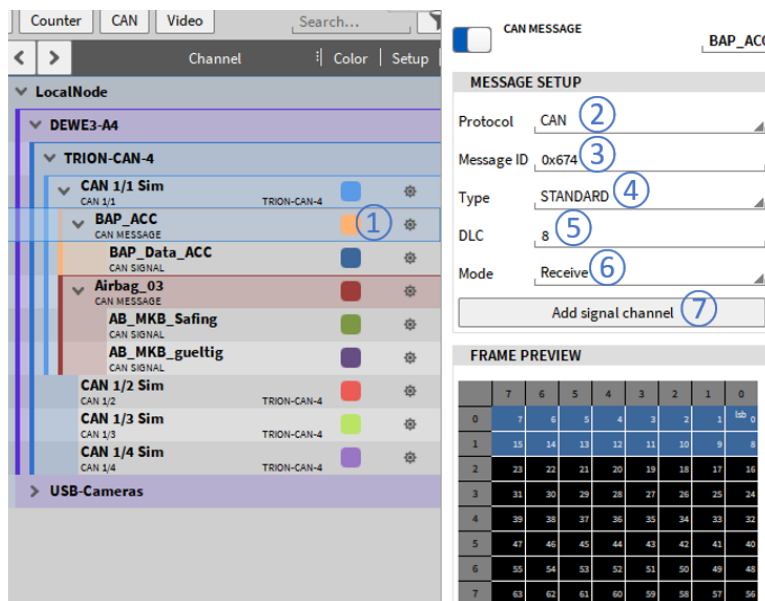

Fig. 7.204: CAN message channel setup
The CAN message setup can be accessed by pressing the gear button of the respective CAN message in the Channel List (see ① in Fig. 7.204).
- Protocol type (see ② in Fig. 7.204): CAN or J1939 or CAN-FD (if applicable)
- Message ID (see ③ in Fig. 7.204): The message's ID can be set from 0x00 to 0x7ff
- Message Type (see ④ in Fig. 7.204): Standard or Extended
- DLC (see ⑤ in Fig. 7.204): The DLC can be set from 0 ... 8 (...64 for CAN-FD)
- Mode (see ⑥ in Fig. 7.204): The Mode can be set from Receive (Receiving CAN data) to Transmit (Outputting OXYGEN data over CAN).
- Add signal channel (see ⑦ in Fig. 7.204):